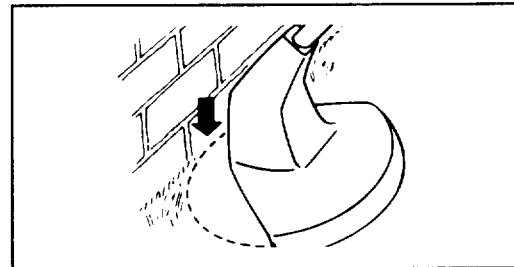

Figure 14
7. **DO NOT FORCE THE UNIT.** Allow the very *tip* of the nylon line to do the cutting (especially along walls) (Fig. 14). Cutting with more than the tip will reduce cutting efficiency and overload the motor.